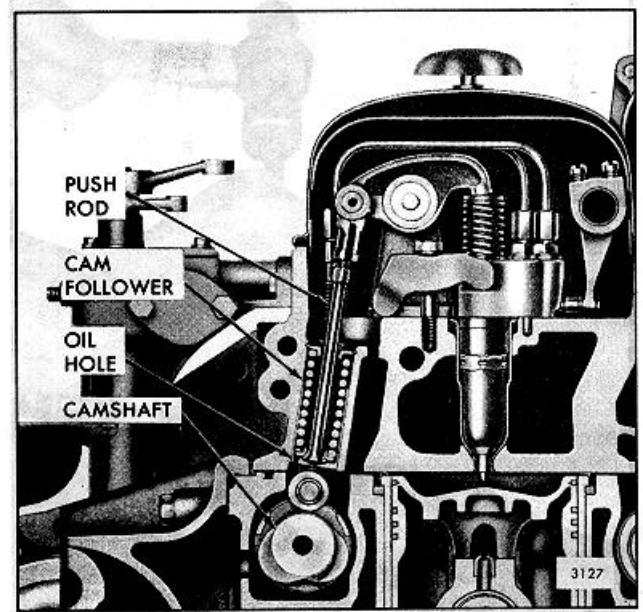

Fig. 10 Installation of Cam Followers
1. Note the oil hole in the bottom of the cam follower. With the oil hole directed away from the exhaust valves (Fig. 10), slide the cam follower in position in the cylinder head.
3. Note the oil hole in the bottom of the cam follower. With the oil hole directed away from the exhaust valves (Fig. 10), slide the cam follower in position from the bottom of the head.